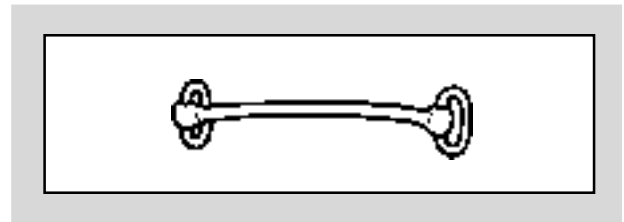

Figure 24. Overcheck Bit (May Be Broken/ Jointed Mouthpiece).
- **Overcheck Bit.** Usually has a slender straight or broken bar (see Figure 24). It should be above the snaffle and high enough so it will not interfere with the snaffle's action, as the overcheck rests and works on the bars of the upper jaw. This bit is optional. The overcheck rein attaches to this bit or may attach to the driving bit itself. The bit should be supported by the bridoon strap.